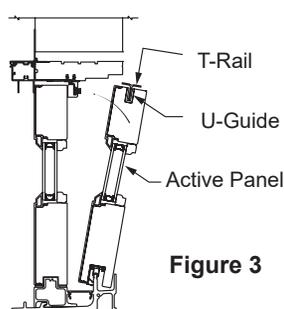

Figure 3
4. Starting with one of the operable panels, place the corresponding side's T-Rail into the U-Glide at top of panel (Figure 3).
5. Lift the bottom of the panel with the rollers onto the roller track and tilt upright into place (Figure 3).